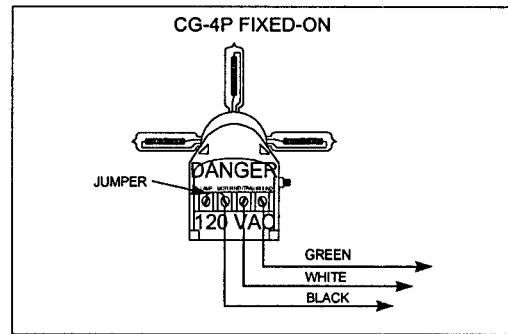

Figure 2-4
- m. Wiring shall be 12/3 SO cable through a watertight stuffing tube, or individually insulated wires installed in conduit (Liquid-Flex near lantern). Wires shall have insulated spring spade lugs and terminated at the terminals "Black" (120VAC), "White" (Neutral) and "Green" (Ground) terminals of the CG-4P lampchanger, as shown in Figure 2-4 for fixed-on, 24 hours a day operation.